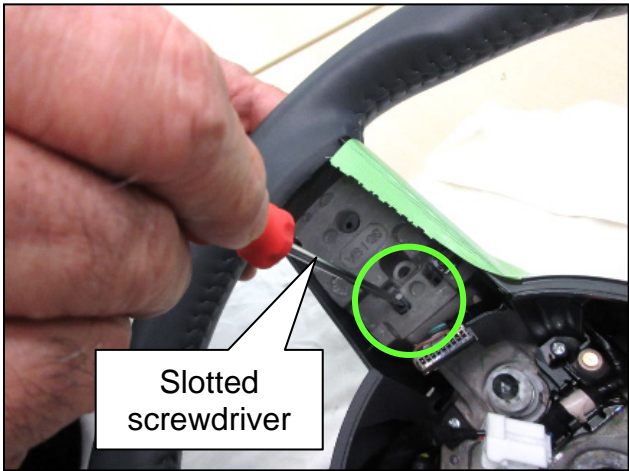
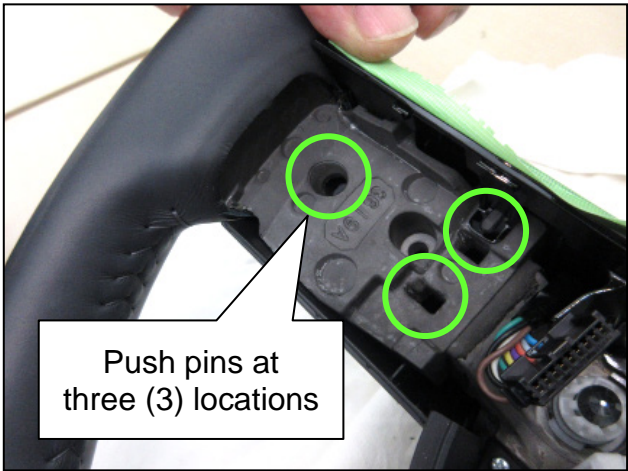

Figure 12
Figure 13
11. From the top side, push the plastic pins in with the Slotted screwdriver at the three (3) locations, as shown in Figure 12 and Figure 13 to drop the pins into the back of the switch. Repeat this step for the opposite side switch.